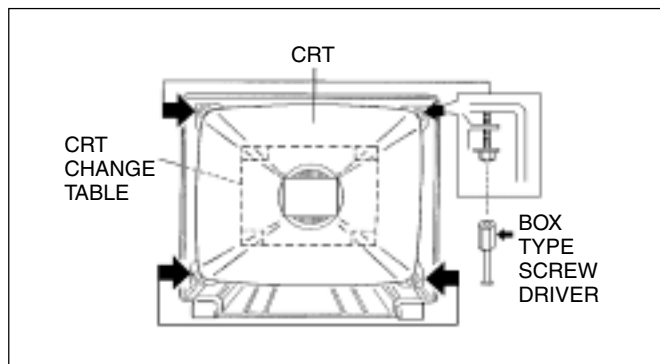

Fig. 3
- 2. While keeping the surface of CRT down, mount the TV set on the CRT change table balanced will as shown in Fig. 3.
- 3. Remove 4 screws marked by arrows with a box type screwdriver as shown in Fig. 3.